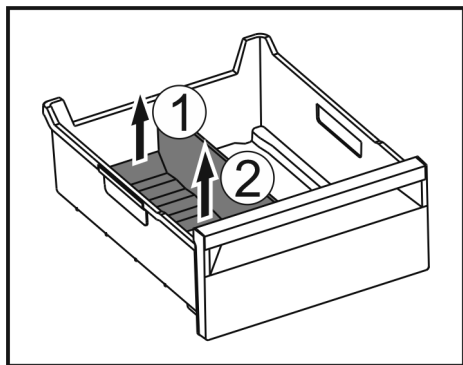

Fig. 127
- ▶ Lift the rear part of the ice compartment divider. *Fig. 127 (1)*
- ▶ Remove the ice compartment divider upwards. *Fig. 127 (2)*